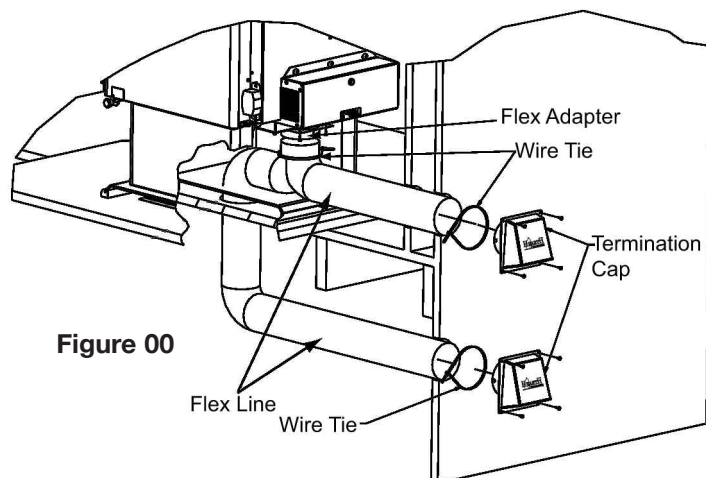

Figure 00
3. Using a #2 Phillips screw driver attach the flex pipe to the flex adaptor on the stove using a pipe clamp. **Figure 00.**